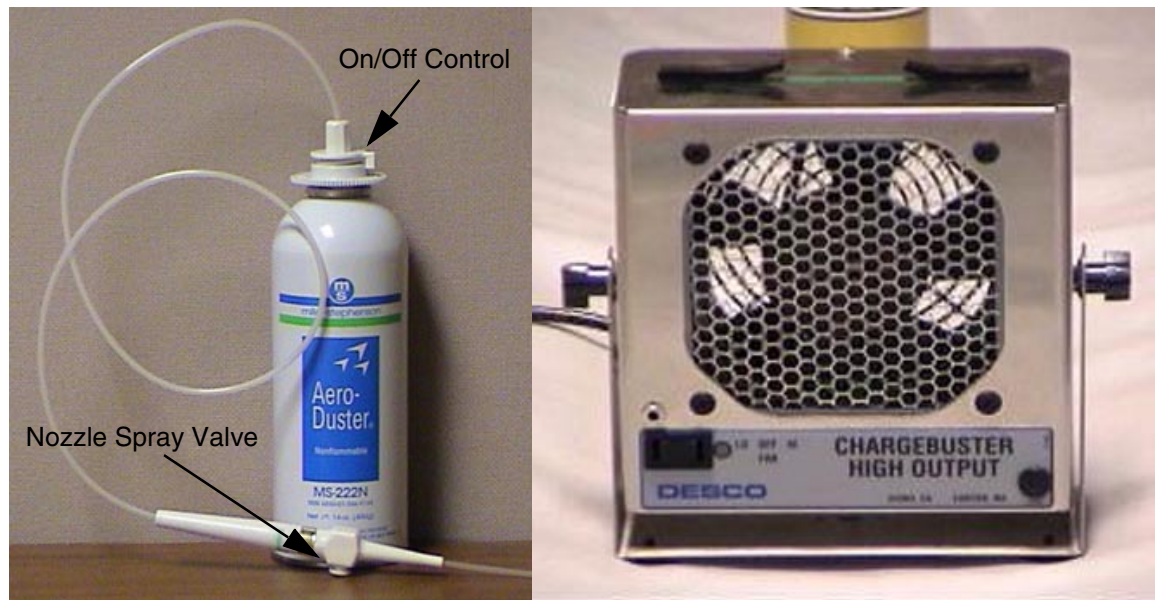

Figure 1-4 Aero Duster and Spray System Attachment and Ionizing Fan
- Always hold can upright as in Figure 1-4 and clear the hose attachment by spraying away from any surface. Do this to ensure no liquid is discharged.